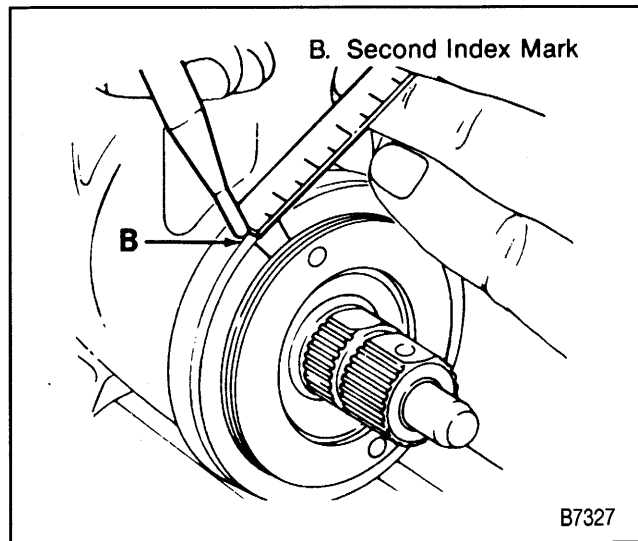

Figure 8—Remarking the Housing
4. Measure back (counterclockwise) 13 mm (0.50 inch) from the index mark and put a second mark on the housing (figure 8).